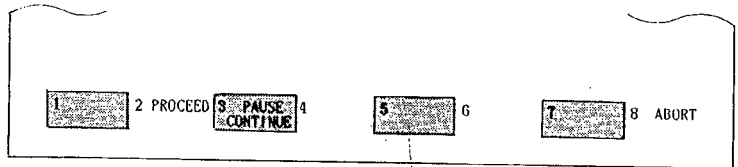

Fig. 7.51
4. If non-confirmity is found by the verify process, the label shown in Fig. 7.51 is displayed, and the buzzer sounds intermittently for 5 seconds. Depress **PROCEED** to continue comparing, and depress **ABORT** to call up the display show in Fig. 7.30 again. If **↑ PAUSE ↑** is depressed to change it to **↓ PAUSE ↓**, the verify continues to the end without stopping even non-conformity is found. In this case, "××××× MISCOMPARE: VERIFY COMPLETE" will be displayed in the message area.